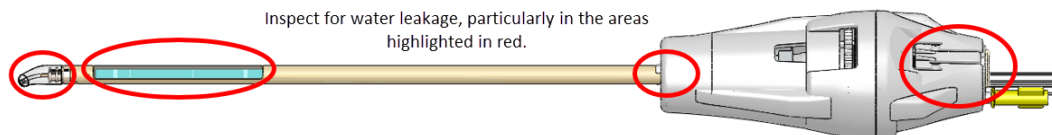

Figure 24: Areas to inspect for water leaks in the UA
7. **Urologist:** Closely inspect the UA along the length of the shaft for any water leakage, paying attention to the areas of interest shown in *Figure 24*. If you see water, the UA is defective and must not be used.